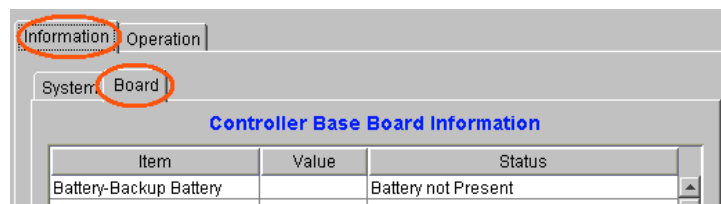

Figure 6-12: Board Information
- **Board:** FAN0/1 Values, CPU Temp Sensor, Board Temp Sensor, +3.3V Value, +5V Value, +12V Value. Typical Board Information readout is shown in *Figure 6-12*.